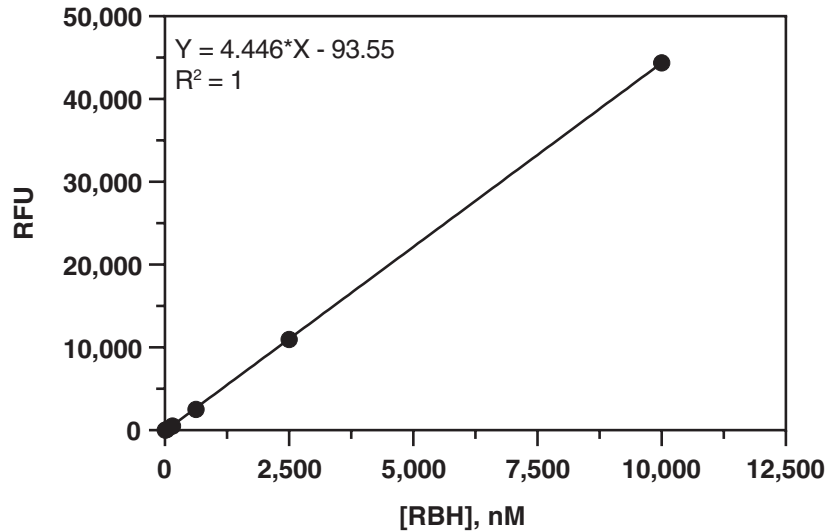

Figure 3. Typical standard curve
3. Plot the corrected fluorescence of the standards as a function of the final concentration of RBH from Figure 3. See Figure 3 for a typical standard curve.